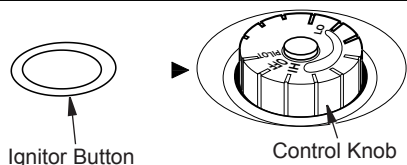

Figure 19 - Control Knob in the OFF Position
4. Wait five (5) minutes to clear out any air. Then smell for gas, including near the floor. If you smell gas, STOP! Follow "B" in the safety information, page 16. If you do not smell gas, go to the next step.
5. Turn control knob counterclockwise  to the PILOT position. Press in control knob for five (5) seconds (see Figure 19).